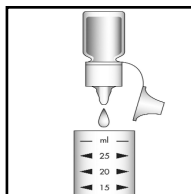

Figure 1
1. Add 5 drops of A-7900 Activator Solution to the empty dilutor snapper cup (fig. 1).